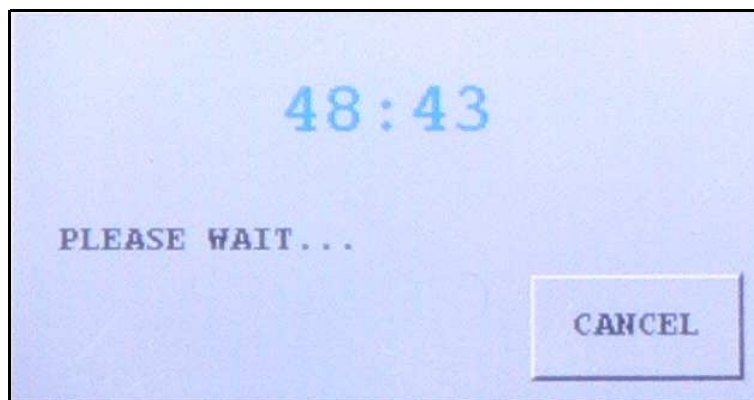

Figure 2-9 Helium Background Timer
- Background is changing, indicating the system is still pumping away background helium, a countdown timer appears (Figure 2-9). The VS system monitors the helium background and shows the time until the calibration begins. Should you prefer not to wait, a *Cancel* button permits the calibration request to be cancelled.